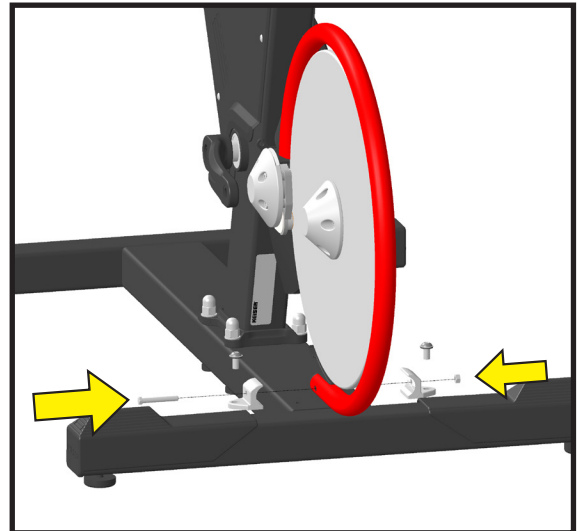

Figure 8. Align, Attach, and Tighten Flywheel Guard Brackets
- Attach the brackets on the end of the flywheel guard, refer to Figure 8. Use the M6 x 1 x 45 hex head screw and nut (supplied). Hand tighten the screw and nut.